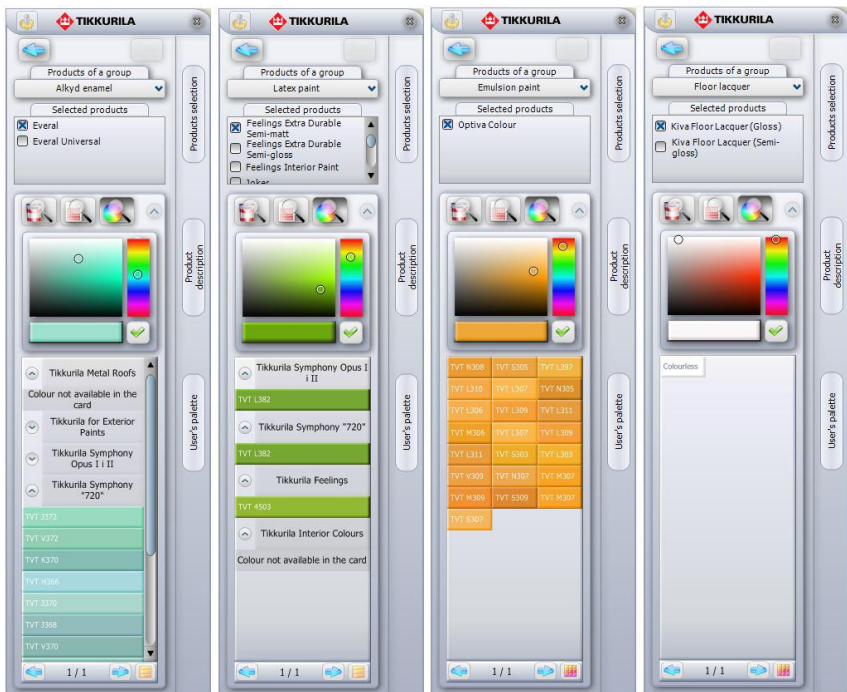

Fig. 230 – results of searching for the preferred colours for the chosen product
- After it is accomplished, the list of Cards, in which the wanted colour has been found, will appear below the palette (Fig. 230);
- An example result of this kind of selection has been illustrated on the illustration on the next page (Fig. 230);